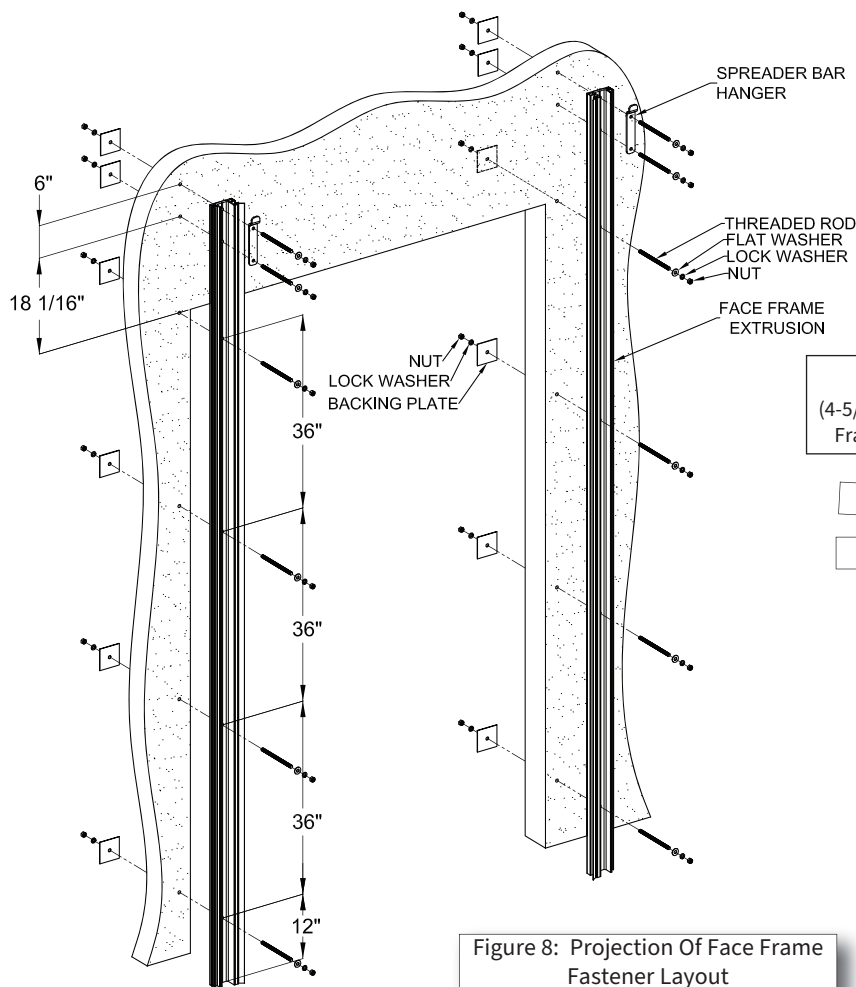

Figure 8: Projection Of Face Frame Fastener Layout
11. When face frames are plumb, and tops of face frames leveled, mount with hardware appropriate for wall at install location. Only the top (2) mounting holes are pre-drilled in face frames (holes for spreader bar hanger). Drill remaining holes for mounting through face frames & wall per dimensions (Figure 8) 36" spacing maximum.
12. Hand tighten fasteners. Check distance between face frames at top, middle, and bottom. Check diagonals for square and adjust if necessary. After all checks have been made, tighten fasteners except for top (3) fasteners on each frame. These will be tightened after mounting header. Making sure face frames are not distorting while tightening bolts.